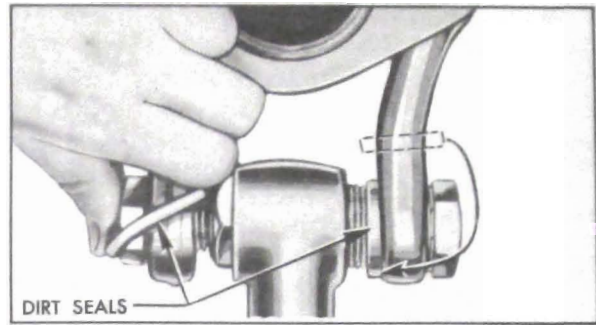

Figure 7-12—Installing Dirt Seals
9. Slip the lower pivot pin dirt seals over outer ends of lower control arm. Centralize lower end of knuckle support between outer ends of lower control arm, then install lower pivot pin and lockwasher from front side and tighten securely. Install and tighten nut. Snap dirt seals into place over pivot pin. See figure 7-12.